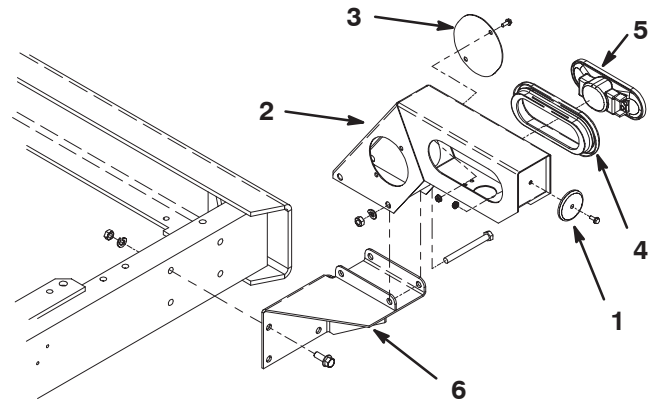

Figure 1
1. Mount a 2" red reflector to the end of each light arm with a #10-24 x 1/2" lg. machine screw and a Keps nut (Fig. 1).
2. Mount a 3" red reflector to the front of each light arm with (2) #10-24 x 1/2" lg. machine screws and Keps nuts (Fig. 1).
3. In the front of each light arm, install a rubber grommet in each tail light mounting hole (Fig. 1).
4. Install a tail light into each grommet (Fig. 1).
5. Mount a left or right light mount bracket to the rear of the frame with (4) 3/8-16 x 1" lg. flange head screws, 3/8" lockwashers and 3/8" hex nuts (Fig. 1).
6. Mount each light arm to a bracket with (2) 3/8-16 x 3-3/4" lg. flange head screws, 3/8" lockwashers and 3/8" hex nuts (Fig. 1).